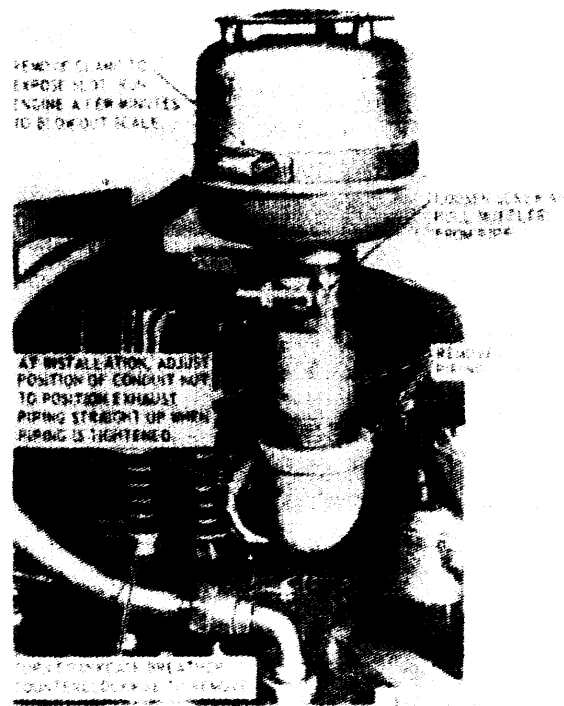

Figure 29. Muffler, exhaust piping and breather, removal and installation
a. *Service.* Refer to figure 29 and service the muffler.
b. *Removal.* Refer to figure 29 and remove the muffler and piping.
- (1) Clean the exhaust system parts with an approved cleaning solvent. Take care to remove carbon from inside of piping and muffler.
- (2) Inspect the muffler for cracks, dent, holes, thin walls, and other damage.
- (3) Inspect all other parts for cracks, worn or damaged threads, corrosion, excessive heating, and other damage. Replace all damaged parts.
d. *Installation.* Refer to figure 29 and install the muffler and piping.
a. *Removal.* Refer to figure 29 and remove the crankcase breather.
- (1) Clean the crankcase breather by immersing in an approved cleaning solvent; shake dry.
- (2) Inspect the breather for visible damage. The breather cap must be free on the top of the breather. Blow through the breather with compressed air to assure that the passage through the breather is free.
c. *Installation.* Refer to figure 29 and install the crankcase breather.